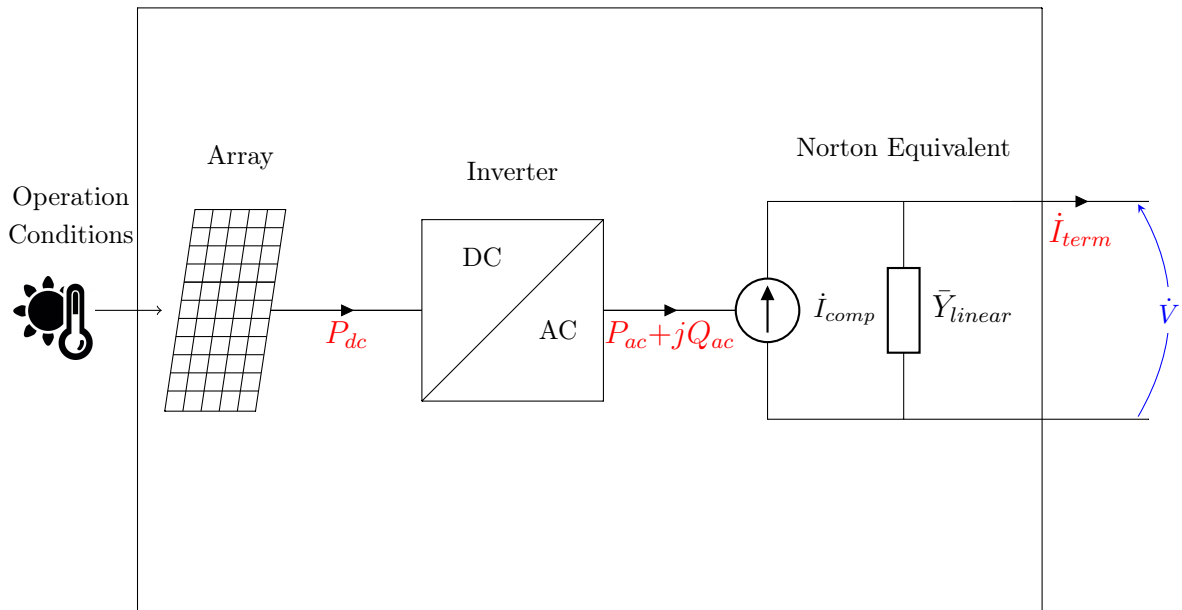

Figure 1: Block diagram of the PVSystem2 element model
Figure 1 shows a schematic diagram of the PVSystem2 element model recently implemented into OpenDSS version 8.6.A at Build BB. The model combines the photovoltaic (PV) array and the PV inverter. It assumes that the inverter is capable of tracking the maximum power point (mpp) of the panel quickly, allowing adequate use in QSTS simulations with a time step of at least one second. This considerably facilitates PV modeling and is an adequate simplification for most interconnection impact studies.